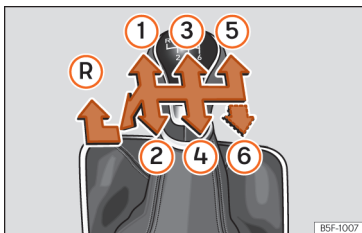

Fig. 55 Gear shift pattern of a 5 or 6-speed manual gearbox.
The position of the gears is indicated on the gearbox lever »» **Fig. 55**.
»» **Fig. 55 (R)**.